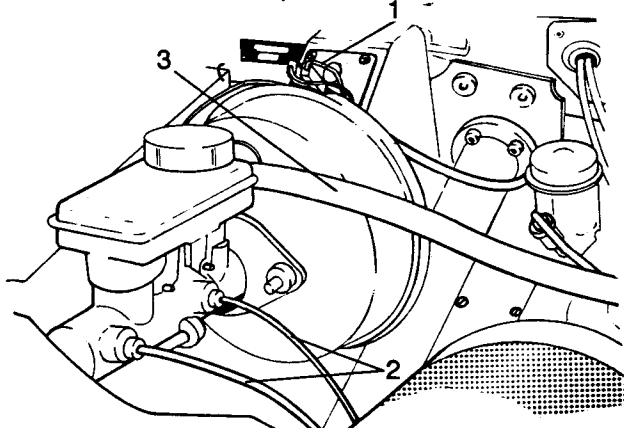

Fig K1.8
- (1) Refer to Fig K1.8. Disconnect the stop light electrical leads (1).
- (2) Disconnect the outlet pipes (2) from the master cylinder. Fit blanking plugs to the outlet apertures or drain the fluid reservoir, to prevent fluid spillage.